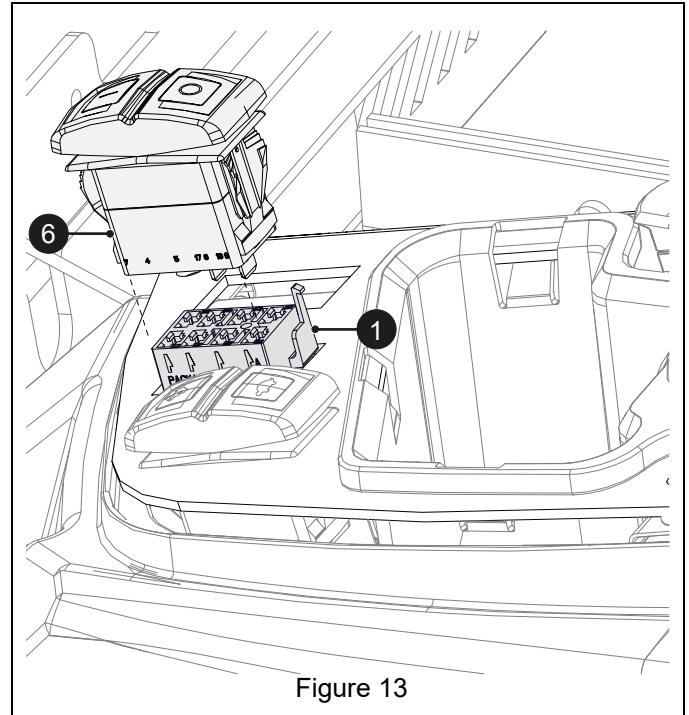

Figure 13
19. Position control panel in opening without securing. Route switch plug on wire harness (item 1) through switch hole and connect to back of light switch (item 6). "I" graphic on switch rocker faces forward. See Figure 13.